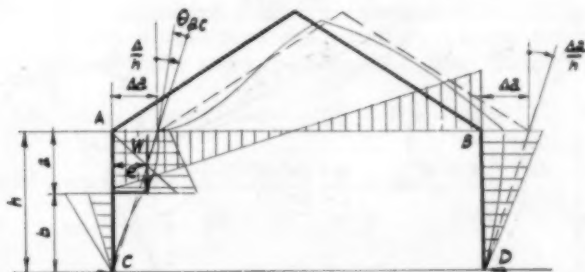

Fig. 21.
**Frame with a Crane Load (Fig. 21).**—If a frame with a curved member is subjected to a crane load, the angular gaps at A and B are  $\left(\frac{\Delta a}{h} - \theta_{ac}\right)$  and  $\frac{\Delta a}{h}$  respectively, and equations (33) require only slight adjustment:
For a symmetrical pitched frame (Fig. 21),